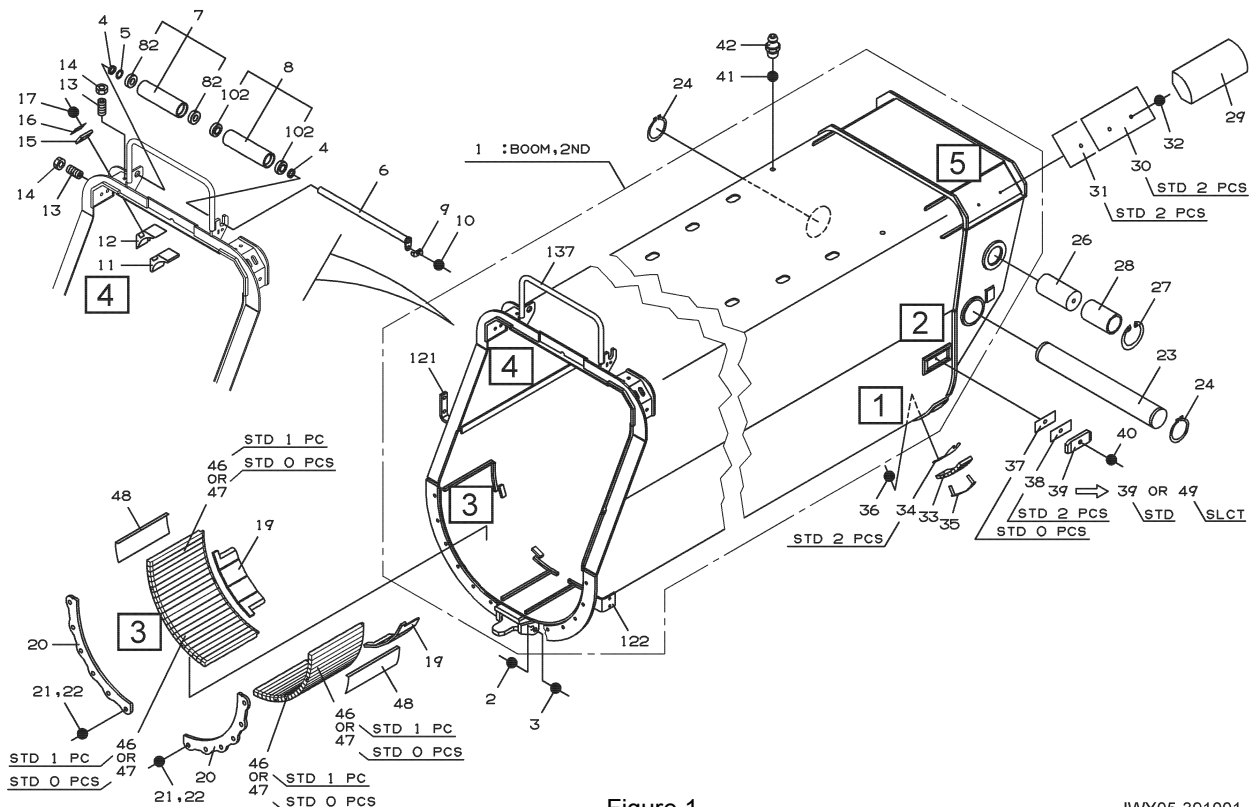

Figure 1
- ◆ With the adjustment work, perform the work in a sequential order with the items listed below. (Refer to Figure 1.)